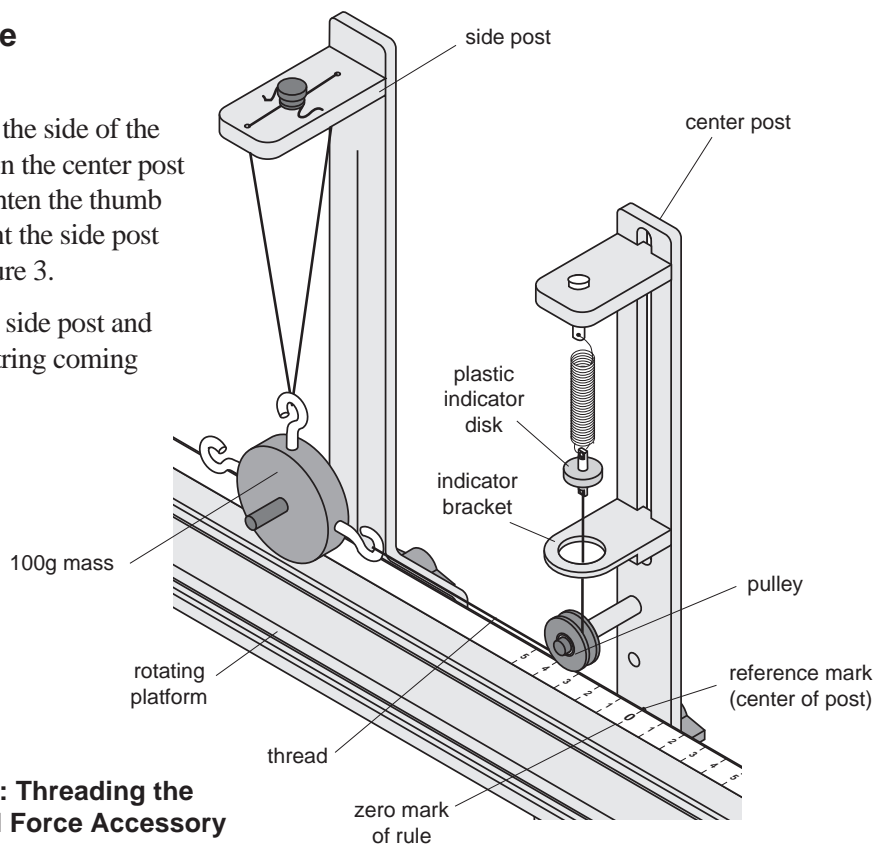

Figure 3: Threading the Centripetal Force Accessory
- ① Mount the center post in the T-slot on the side of the track that has the rule. Align the line on the center post with the zero mark on the rule and tighten the thumb screw to secure it in place. Then mount the side post on the same side of the track. See Figure 3.
- ② Hang the object from the string on the side post and adjust the height of the object so the string coming from the center post will be level.